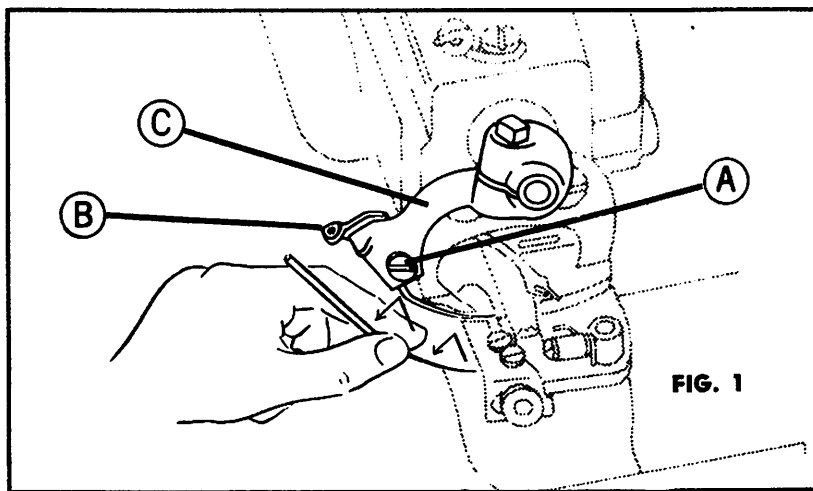

FIG. 1
2. Hold Needle with left hand thumb and index finger, remove by moving away from you and to the left (Fig. 1). It should come out effortlessly. DO NOT FORCE.